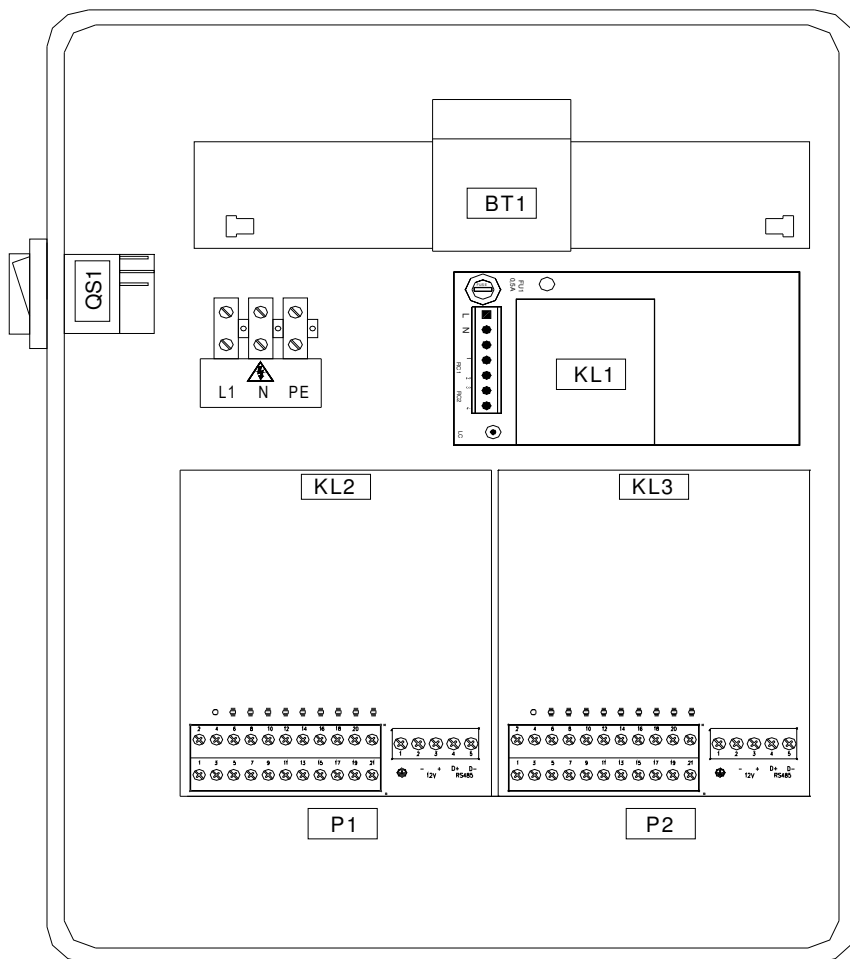

Fig.1
8.1 Description of main components (fig.1)